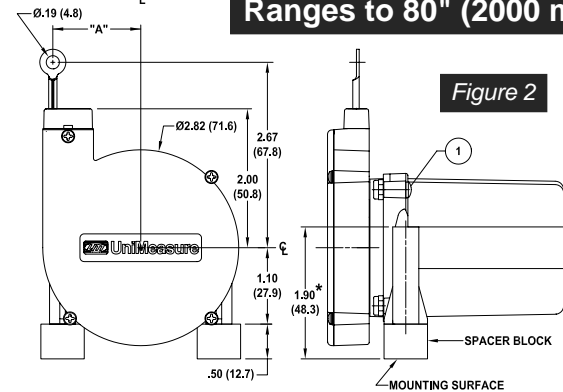

Figure 2
- Mount unit with two #8 or two M4 (or smaller) pan head machine screws. On units with ranges of 60" (1500 mm) or 80" (2000 mm), place spacer blocks under mounting pods as shown in Figure 2. Torque 8-32 screws to **8 lb-in** maximum. Torque M4 screws to **0.80 N-m** maximum.